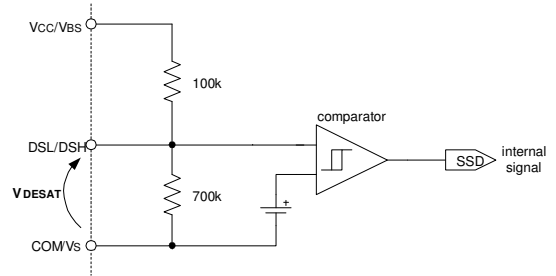

Figure 4: DSH and DSL Diagram
**Pins:  $DSL$ ,  $DSH$  (refer to Fig. 4)**